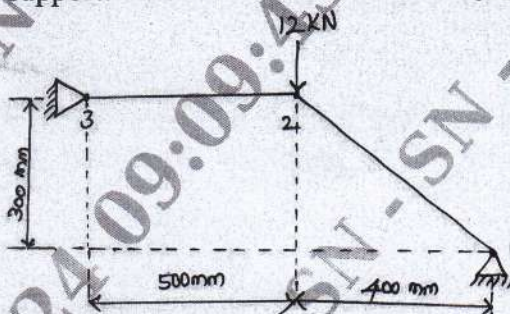

Fig. Q6 (a) (10 Marks)
- 6 a. For the two bar truss shown in Fig. Q6 (a) determine the nodal displacement, stress in each element and reaction at the support. Take $E = 2 \times 10^5 \text{ N/mm}^2$. $A_C = 200 \text{ mm}^2$. (10 Marks)